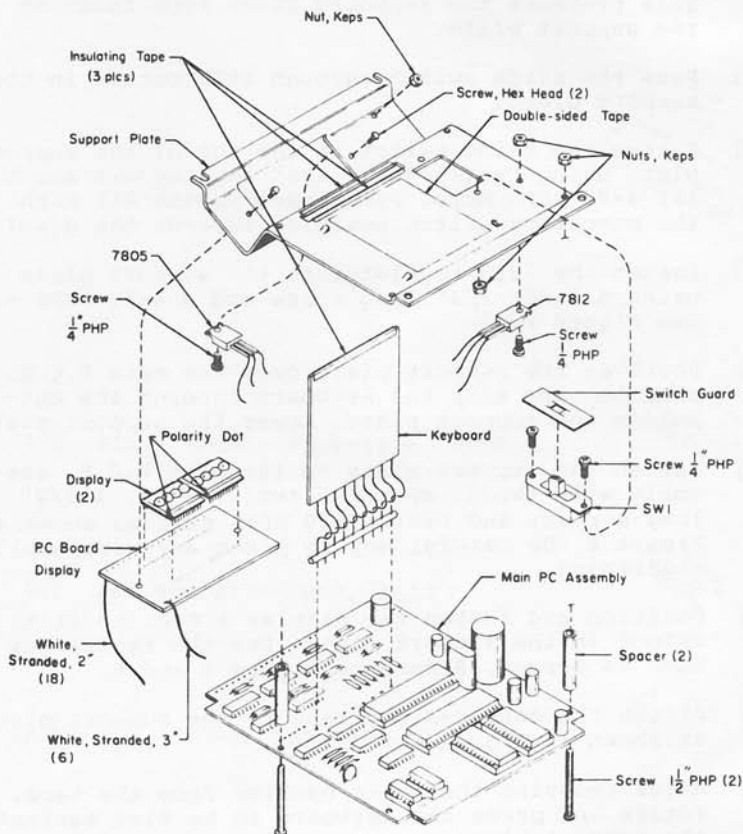

Figure 6
- [✓] Place plastic electrical tape(not supplied) or scotch tape on both lips of the support plate and on the end of the keyboard as shown in Figure 6. This prevents the keyboard wires from touching the support plate.
- [✓] Fasten the slide switch to the top of the support plate using two(2) 4-40, 1/4" long screws and two (2) 4-40 KEPS nuts. See Figure 6. Install with the momentary switch position towards the display.
- [✓] Fasten the 7812 regulator to the support plate using a 4-40, 1/4" long screw and a 4-40 KEPS nut. See Figure 6.
- [✓] Fasten the support plate to the main P.C.B. assembly with two(2) spacers, two(2) 4-40, 1-1/2" long screws, and two(2) 4-40 KEPS nuts as shown in Figure 6. Be careful not to pinch any wires while tightening.
- [✓] Position and fasten the display P.C.B. to it's cutout in the support plate. Use the two(2) Hex head #4 screws. Reference Figure 6 and 8.
- [✓] Attach the double-sided tape to the support plate as shown in Figure 6.
- [✓] Fasten the 7805 regulator to the support plate using a 4-40, 1/4" long screw and a 4-40 KEPS nut. Reference Figure 6.